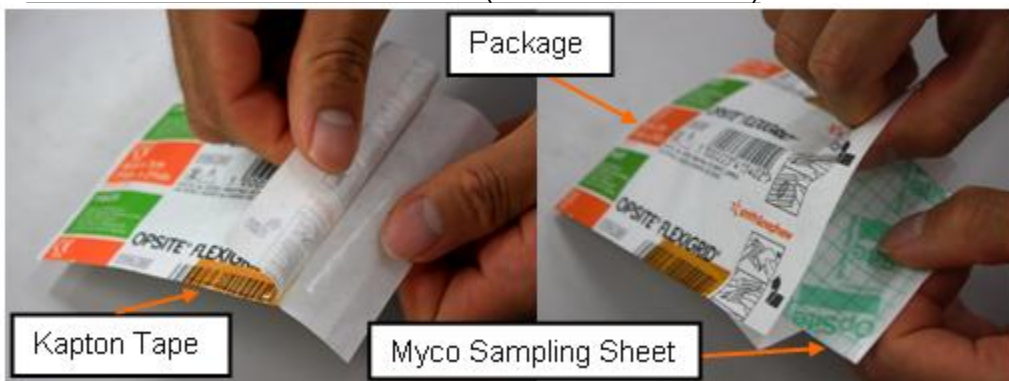

Figure 1. Opening the package of Myco Sampling Sheet
- 2.1 Remove Myco Sampling Sheet package for left cheek from Myco Kit. Refer to Figure 1.
Refer to Figure 1.